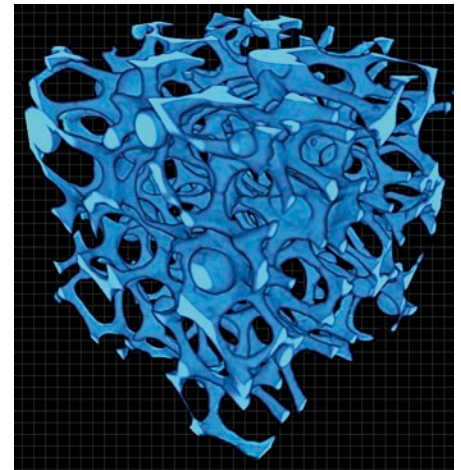

Fig. 2: A take of the microstructure of a piece of aluminium foam by X-ray tomography
The measurement of the intensity in three dimensions in real time leads to the high resolution measurement of the wavefront with no use of the hardware diffracting elements or micro-lenses, at the cost of increased computational effort. The evolution of the beam through space is sensed by projecting the beam corresponding to different planes transversal to the optic axis, onto a CCD camera, demultiplexing the images and applying complex fast mathematical differential equation solvers to obtain the beam's wavefront. The resulting optical sensor (fig. 2) is insensitive to vibrations, compact (25 x 32 x 43 mm) and light (0.3 kg).
**Fig. 2: Digital Wavefront Sensors are used in measuring laser beams to provide information about beam focusing parameters from simultaneous measurement of phase and intensity at only one plane transversal to the beam propagation direction**
side of work pieces, revealing faults like pipes, cavities, pores, or ruptures. Combining mechanical or optical sensors to establish values of reference and computer tomography, will allow metrological measuring of interior structures (see fig. 2).